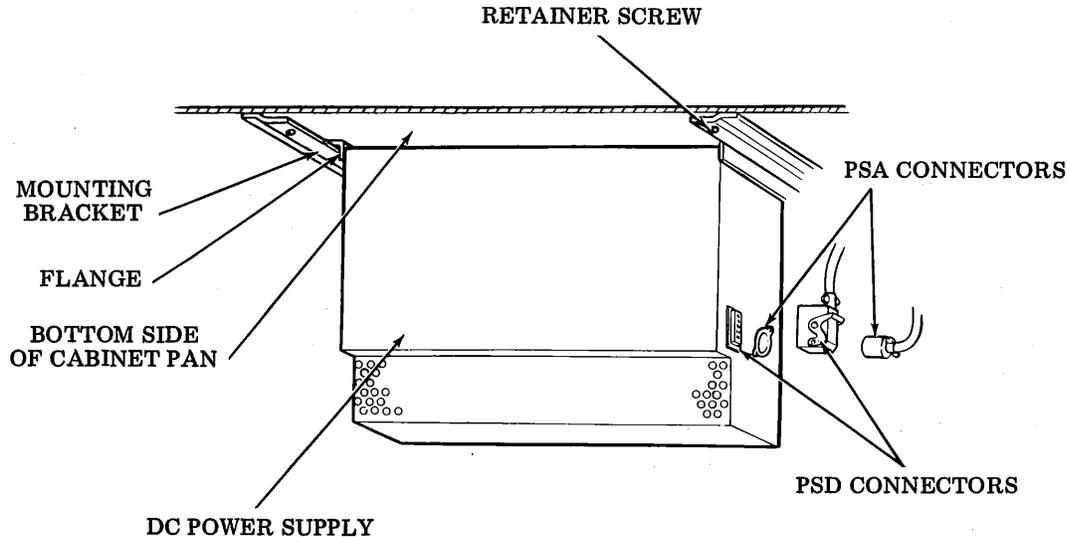

Figure 8 - Dc Power Supply Mounted in Cabinet
3.02 The dc power supply can be mounted easier by laying the cabinet on its back. Using Figure 8 as a guide, proceed as follows: